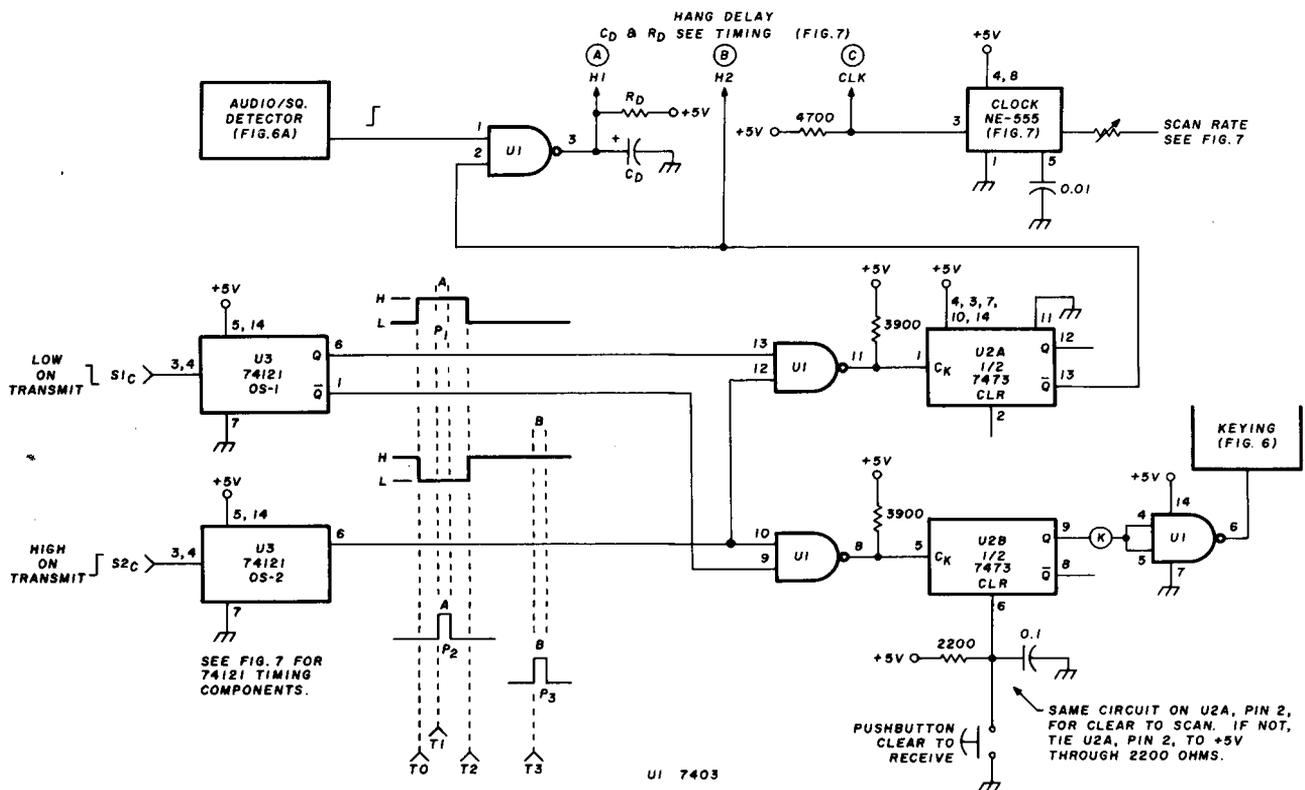

fig. 5. Push-to-talk and push-to-receive and scan/halt control circuits.
(fig. 4). You're then in manual mode regardless of the states on H1 and H2 or whether the control (fig. 5) is in SCAN or HALT.
As the PTT switch is closed, a pulse generated from OS-1, a 74121 one shot, (fig. 7), is directed to two gate inputs. You can vary the width of this pulse to suit yourself as in fig. 7, but I've found that 1 second is a nice average number with which to start. When the PTT switch is released, another much shorter pulse is generated by OS-2. If the switch is released within the 1-second timeframe of P₁ (fig. 5), the high of P₁ and P₂ triggers U1 pin 11 low for a P₂ wide pulse (i.e., a short blip on the PTT switch).
fig. 6. Input-output processing circuits. At (A) is a voltage doubler to handle the TTL gate input at U1 pin 5 (fig. 5). Component values have been chosen for maximum audio fidelity consistent with reliable halts during scanning. A keying system is shown in (B). U1, part of a 7403, will safely handle currents of 16 mA, but the relay circuit is recommended. CR4 is one of the 1N4000 family (approximately 50 volts at 1 ampere).
For long-winded souls on quick-natured repeaters, you can even hook in an automatic timer to control the end of transmission. Several have appeared lately, so I won't go into any specifics here. Just wire the timer so that the act of going to transmit (U2A pin 13 low) triggers the timer on; the timer running out places a pulse low on U2B pin 6 (for a clear to receive command). See fig. 5. Wire so that a shorter conversation both resets to receive and resets the timer. Set the timer duration for about 10 seconds less than that of your local machines.
This is the easiest part of all. Output processing means whether or not to add the relay and/or additional transistor output stages to U1 pin 6 (fig. 5) to handle key-line currents of greater than 15 mA or voltages higher than about +12 volts. If in doubt, use the relay and send a nice, firm relay ground connection back to the radio to key the transmitter.
As for input processing, the control lines into the control section of fig. 5 come from two points on the synthesizer I used. The control signals are TTL levels and a low is applied to OS-1 when the PTT switch is closed (keying the transmitter). A high is applied to OS-2 at that same time. If you don't have these controls, they should be easy to come up with. Just limit the high to about +5 volts. The low should be near ground to protect the inputs of OS-1 and OS-2.
Looking at fig. 6A, a voltage doubler ensures that there's always enough voltage to handle the TTL gate input at U1 pin 1 (fig. 5). Diode CR3 (fig. 6) connected to +5 volts limits the input to U1 pin 1, fig. 5, to a TTL high level. The capacitor at the diode cathode ensures that no audio peaks over +5 volts will appear on the +5 volt line.
The RC network on H1 in **figs. 5** and **7B** puts a hang effect on the action of H1. Keep R_D within the limits shown and change C_D to keep the H1 line low between voice peaks or words. This is the alternative to running a wire from the radio to show a no-squelch condition. It also rejects any dead carriers with no modulation. If you use the wire, limit the voltage excursion to TTL levels and have a high for a station on frequency.